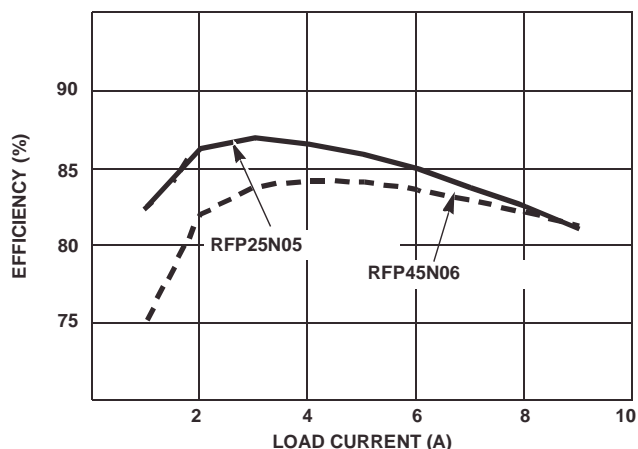

FIGURE 10. HIP6006EVAL1 EFFICIENCY WITH EITHER RFP25N05 OR RFP45N06 MOSFETS
This section shows graphically that a larger, lower RDS(on) MOSFET does not always improve converter efficiency. Figure 10 shows that smaller RFP25N05 MOSFETs are more efficient over most of the line and load range than larger RFP45N06 MOSFETs. The RFP25N05 has a rDS(ON) of 47mΩ (maximum at 25°C) versus 28mΩ for the RFP45N06. In comparison to the RFP25N05, the